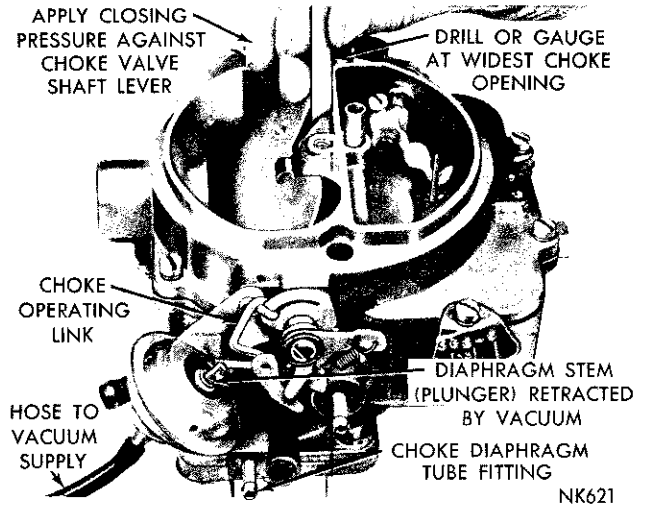

Fig. 11—Checking the Choke Vacuum Kick Setting
(1) With the engine Not running, open the throttle valves far enough to allow the choke valve to be moved to the closed position.
(2) Disconnect the vacuum hose from the diaphragm and connect the hose from the vacuum supply, as shown in (Fig. 11). (A minimum of 10 inches of mercury (HG) will be required.)
(3) Insert a NO. 11 drill (Manual Trans.) or a NO. 22 drill (Auto. Trans.) between the choke valve and the wall of the airhorn. Refer to (Fig. 11). Apply sufficient closing pressure on the choke shaft lever to provide the smallest choke valve opening possible without distortion of the diaphragm link. Note that the cylindrical stem of the diaphragm will extend as an internal spring is compressed. This spring must be fully compressed for proper measurement of the vacuum kick adjustment.
(4) An adjustment will be necessary if a slight drag is not obtained as the drill or gauge is being removed.
(7) Install the choke operating link and recheck the choke valve opening, using a gauge or drill. (Refer to Fig. 11.)